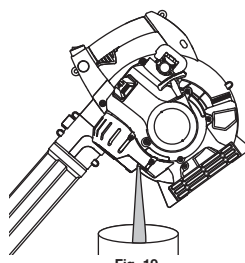

Fig. 19
- Pour the oil out of the oil fill hole and into a container by tipping the unit to a vertical position (Fig. 19). Allow ample time for complete drainage.